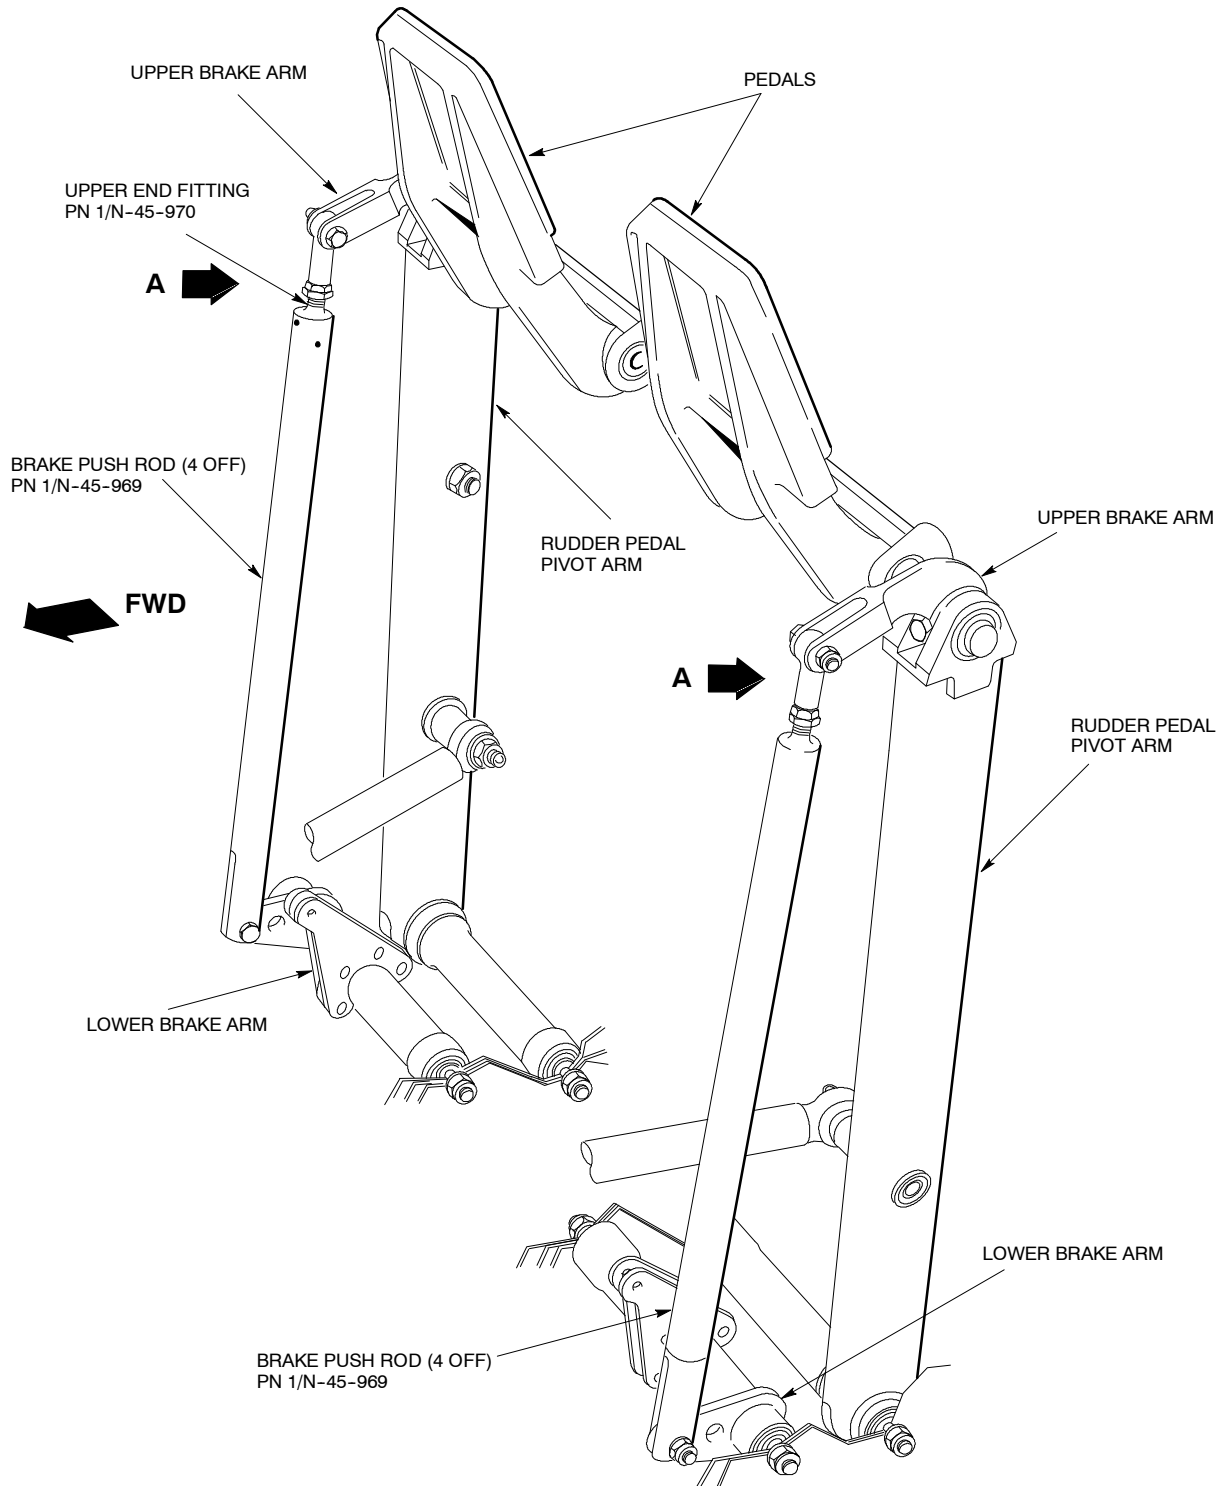
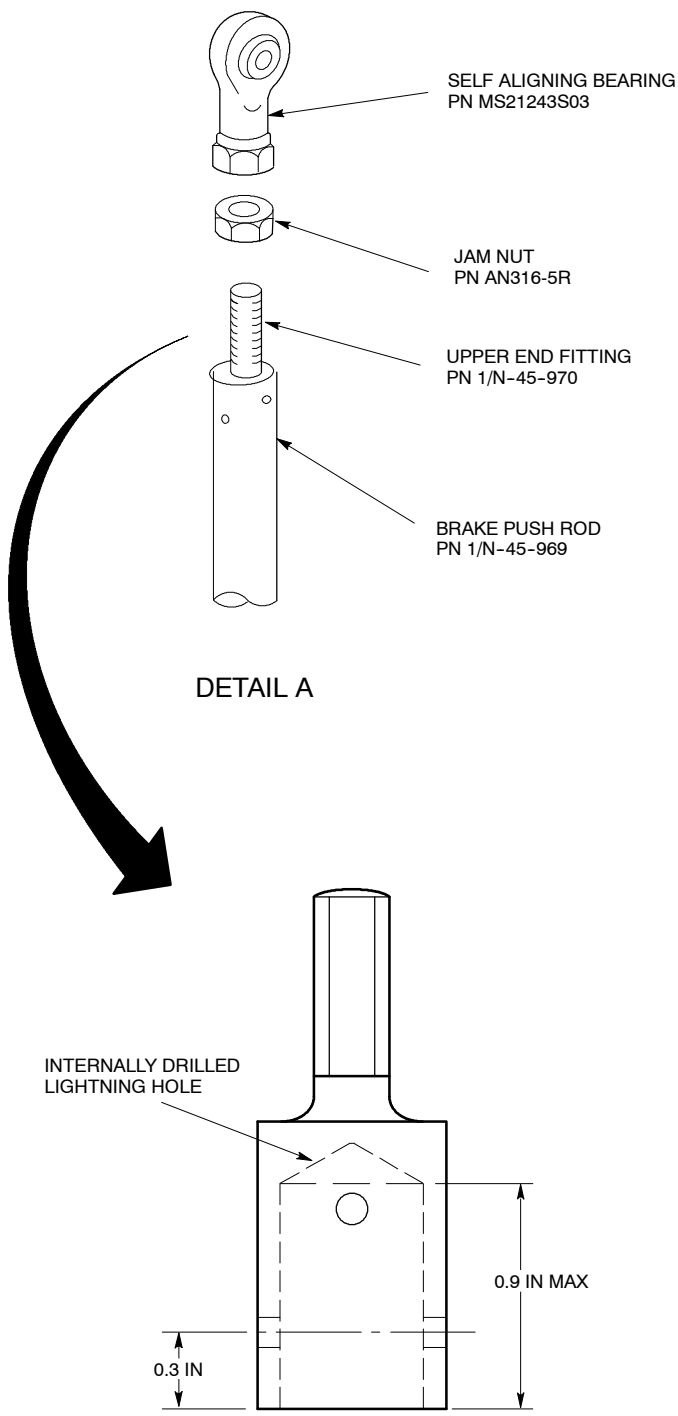

Figure 1 Brake Push Rod Assembly
Figure 2 Upper End Fitting — Brake Push Rod
To amend the rod end fitting hole depth specified in Figure 2 and include additional requirements to parts availability.
- (1) Gain access to all four brake push rod assemblies PN 1/N-45-969 (Ref Fig 1 and MM Chap 27-20-05).
- (2) Disconnect the brake push rods from the upper and lower brake arms (Ref Fig 1). Refit the attachment parts in the removal sequence on the upper and lower brake arms.
- (3) Remove the brake push rod assemblies PN 1/N-45-969 from the aircraft and appropriately tag each push rod to identify the location.
- (4) Measure and record the length of each push rod assembly prior to disassembly.
- (5) Loosen the jam nut and remove the self aligning bearing PN MS21243S03 (Ref Fig 2) then remove the jam nut.
- (6) File off the peened ends of two taper pins securing the upper end fitting PN 1/N-45-970 (Ref Fig 1) and punch out the taper pins.
- (7) Withdraw the upper end fitting PN 1/N-45-970 (Ref Fig 2 Detail A) from the brake push rod assembly.
- (1) Measure the depth of the lightning hole in the upper end fitting (Ref Fig 2) using a suitable depth gauge.
- (2) Fit a new upper end fitting PN 1/N-45-970 if the depth exceeds 0.9 in as shown in Fig 2.
- (3) If the upper end fitting is to be renewed proceed to 2.D. otherwise continue.
- (1) Discard the old end fitting.
- (2) On the new end fitting, mark the centre of the lower taper pin hole 0.3 in from the lower end as shown in Fig 2.
- (3) Using No 30 (0.1285 in) drill in a drill press pilot drill the lower taper pin hole through both sides of the new end fitting.